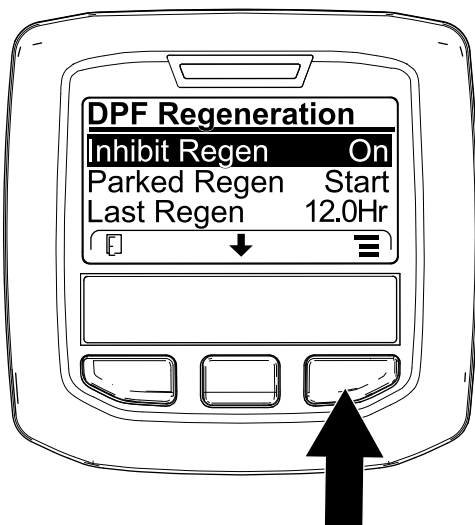
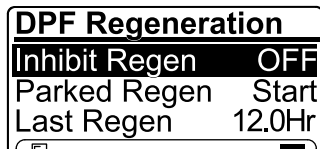

Figure 46
Figure 47
1. Access the DPF Regeneration menu, press the center button to scroll down to the INHIBIT REGEN option, and press the right button to select the Inhibit Regen entry (Figure 46).
2. Press the right button to change the inhibit regeneration setting from On to Off (Figure 46) or from Off to On (Figure 47).